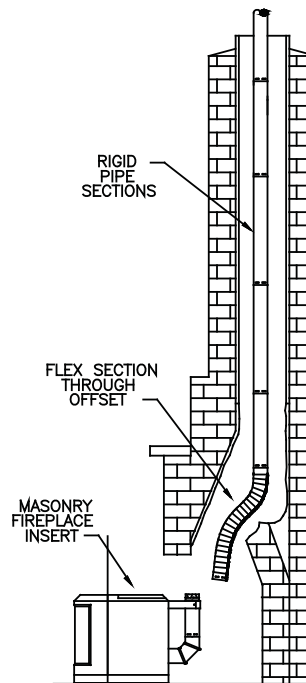

Figure 19
7. Repeat this process for the remainder of the pipe sections, and lower the assembly down the chimney as shown in **(Figure 19)**. Lower it below its normal position in order to connect the Flex Pipe to the pipe on the appliance. It may be necessary to tie a line to the top section, to pull it back up later.